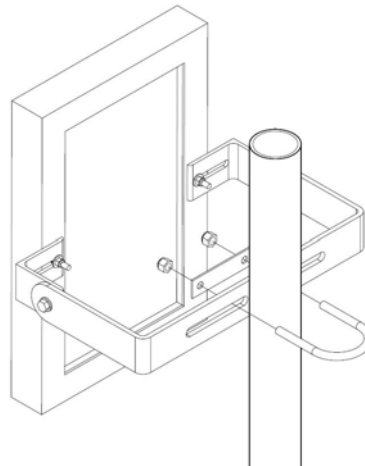

Figure 6
- Step 4: Mount the U-bar tightly to the pole with a U-bolt as seen in Figure 6. Make sure the mount faces SOUTH.